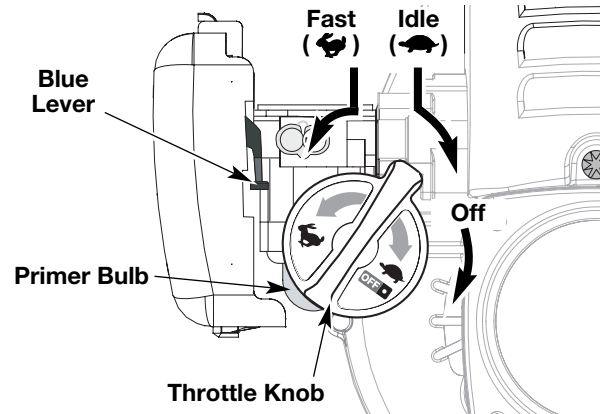
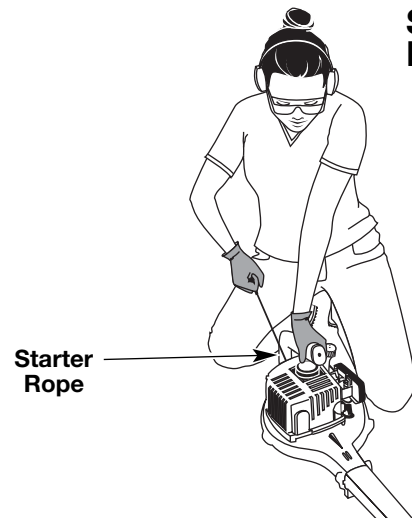

Fig. 2
Fig. 4
**WARNING:** Avoid accidental starting. Make sure you are in the starting position when pulling the starter rope (Fig. 4). To avoid serious injury, the operator and unit must be in a stable position while starting.
2. Fully press and release the primer bulb 10 times, slowly. Some amount of **fuel should be visible in the primer bulb** (Fig. 2) and fuel lines. If you can't see fuel in the bulb, press and release the bulb as many times as it takes before you can see fuel in it.
4. Place the unit in the starting position (Fig. 4). Move the throttle knob to the fast position (👉) (Fig. 2).
1. To turn off the blower, move the throttle knob all the way to the right, past the idle position (👈) until it clicks. Make sure you move the knob into the furthest right detent in order to turn the unit off (Fig. 2).